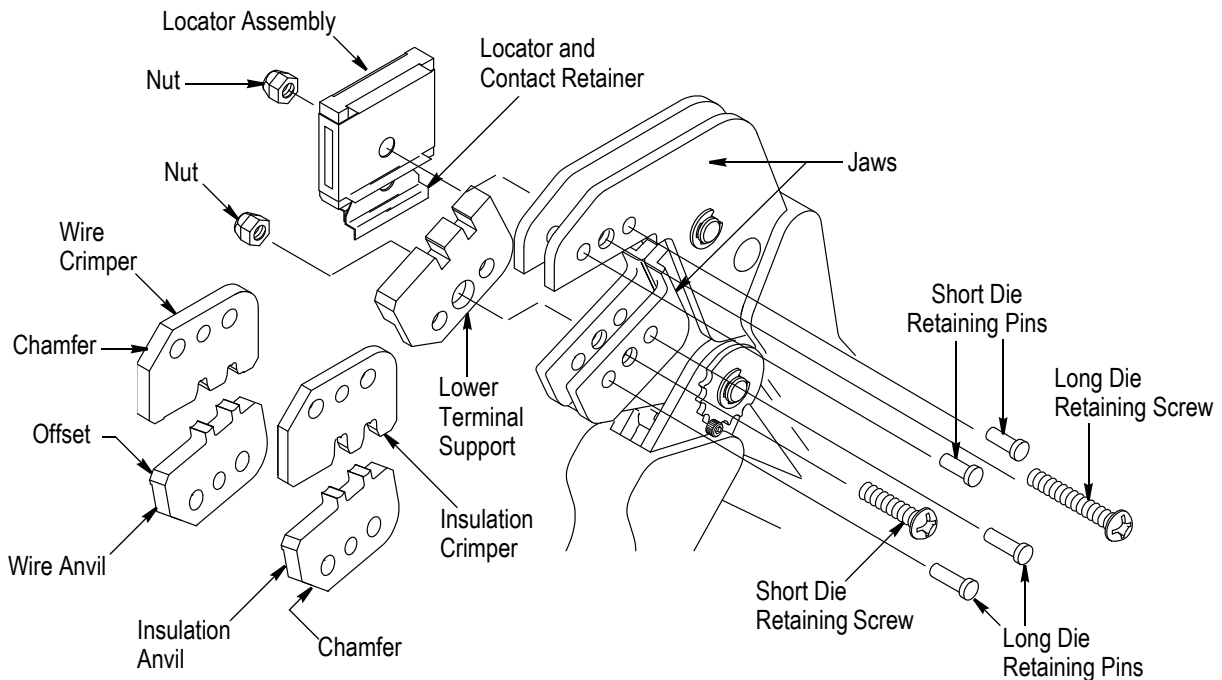

Figure 2
3. INSTALLATION AND REMOVAL OF DIE ASSEMBLY, LOCATOR ASSEMBLY, AND LOWER TERMINAL SUPPORT (See Figure 2)